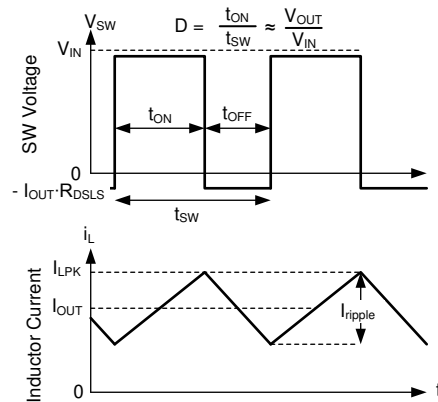

图 9-21. SW Voltage and Inductor Current Waveforms in Continuous Conduction Mode (CCM)
The following operating description of the LM62440-Q1 refers to 节 9.2 and to the waveforms in 图 9-21. In CCM, the LM62440-Q1 supplies a regulated output voltage by turning on the internal high-side (HS) and low-side (LS) NMOS switches with varying duty cycle (D). During the HS switch on-time, the SW pin voltage, V_{SW} , swings up to approximately V_{IN} , and the inductor current, i_L , increases with a linear slope. The HS switch is turned off by the control logic. During the HS switch off time, t_{OFF} , the LS switch is turned on. Inductor current discharges through the LS switch, which forces the V_{SW} to swing below ground by the voltage drop across the LS switch. The converter loop adjusts the duty cycle to maintain a constant output voltage. D is defined by the on-time of the HS switch over the switching period: